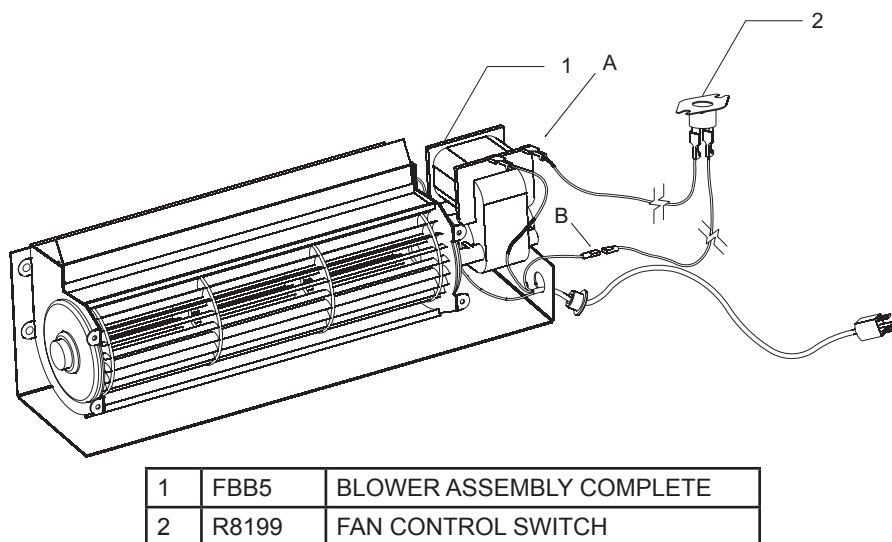

Figure 27
8. One fan control wire will have a 1/4" female terminal that must be attached to the open terminal on the blower motor. **See Figure 27, Connection A.**
9. The other fan control wire has a 1/4" male terminal. Attach this terminal to the open terminal on the blower power cord. **See Figure 27, Connection B**